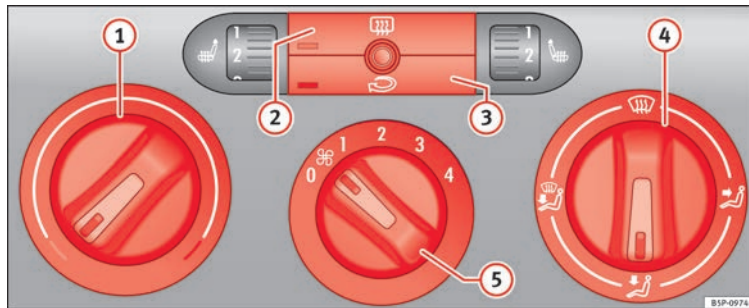

Fig. 114 Heating controls on the dash panel.
- Use the knobs » Fig. 114 ① and ④ and control ⑤ to set the temperature, air distribution and blower speed.
- To switch a function on or off, press the appropriate button ② or ③. When the function is activated, the display window in the lower left of the button is lit.